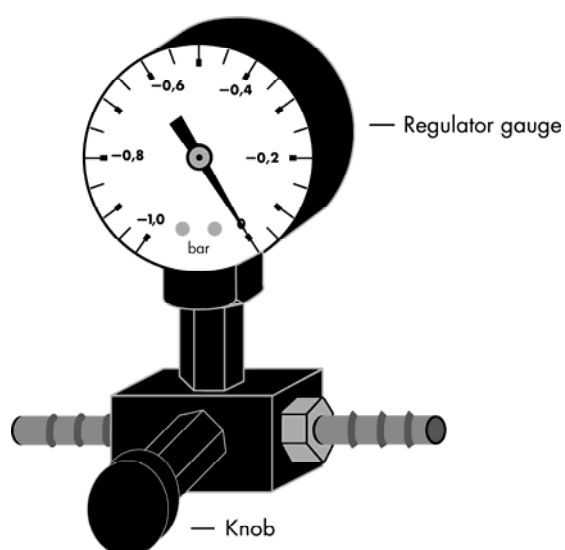

Figure 1. Schematic diagram of the Vacuum Regulator.
- The vacuum pressure is the pressure differential between the inside of the vacuum manifold and the atmosphere (standard atmospheric pressure 1013 millibar or 760 mm Hg) and can be measured using the QIAvac Connecting System or a vacuum regulator (see Figure 1). The protocols require a vacuum pump capable of producing a vacuum or –800 to –900 mbar (e.g., QIAGEN Vacuum Pump). Higher vacuum pressures must be avoided. Use of vacuum pressures lower than recommended may reduce nucleic acid yield and purity and increase the risk of clogged membranes.
Switch off the vacuum between steps to ensure that a consistent, even vacuum is applied during processing. For faster vacuum release, a vacuum regulator should be used (see Figure 1).